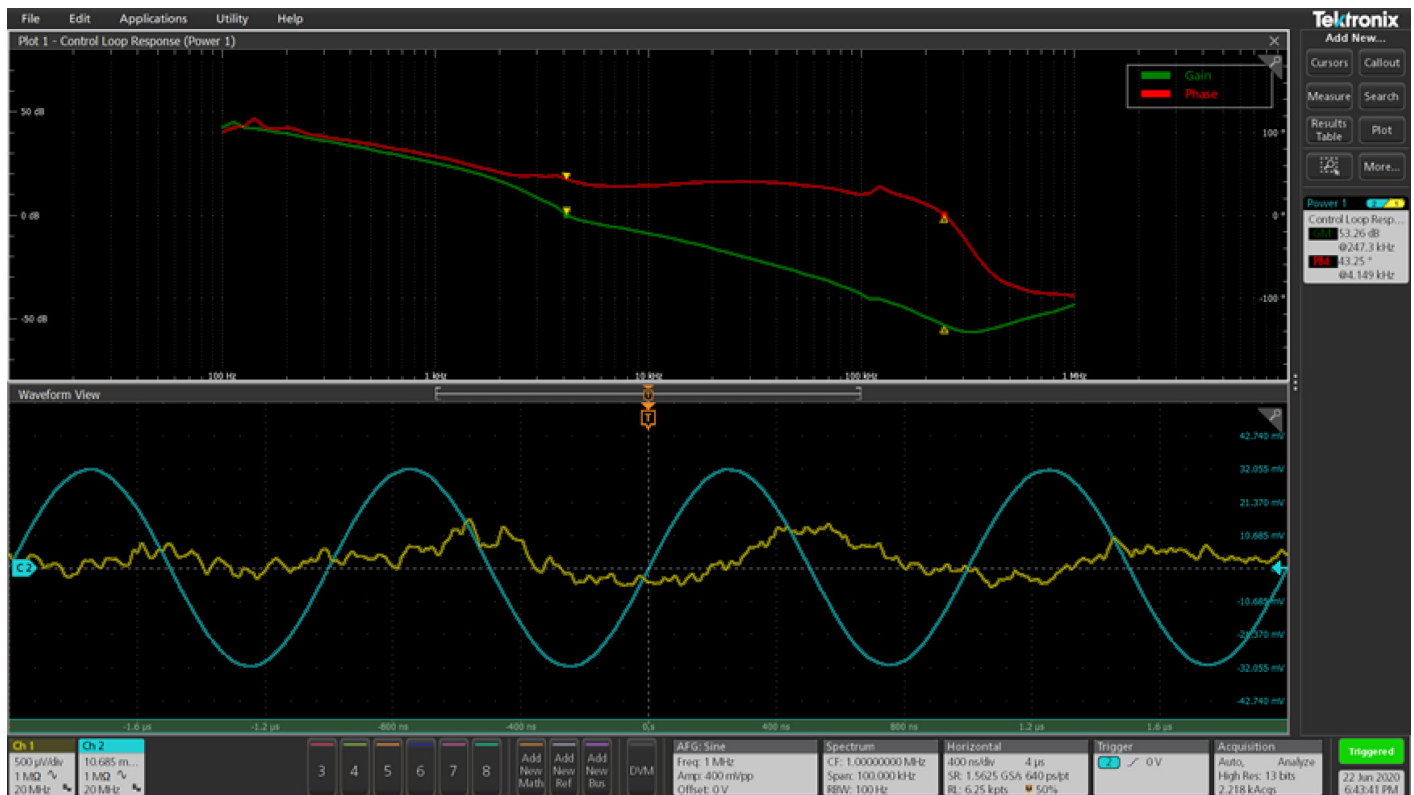

Figure 8. Gain and phase versus frequency, gain margin and phase margin measured on a 5 Series MSO oscilloscope.
**Figure 8** shows the gain and phase plots on a 5 Series MSO using the following settings to make measurements on a point-of-load regulator:
Gain and phase margins are presented in “badges” on the right. For the example shown in Figure 8, the gain margin measures 53 dB and phase margin measures 43°. As shown in Figure 10, cursors may be used on the Bode plots to indicate gain and phase at any frequency. The difference between the two cursors is also displayed. Being able to quickly pick off measurements helps accelerate debugging.